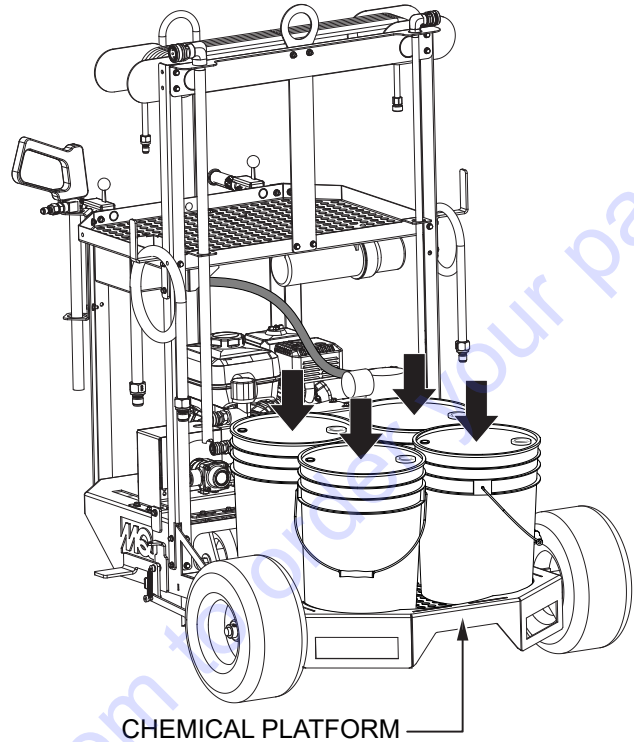
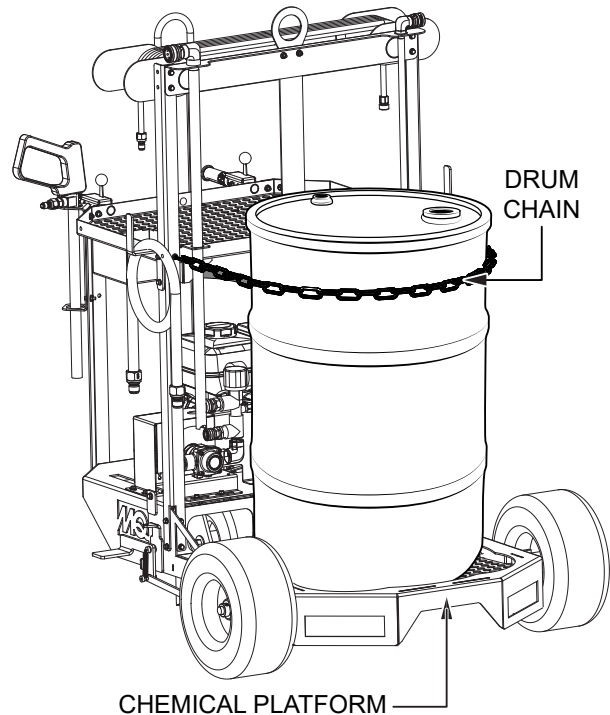

Figure 12. Loaded Chemical Platform (Buckets)
Figure 13. Loaded Chemical Platform (Drum)
2. Carefully load your liquid chemical supply onto the chemical platform. The platform will hold up to four 5-gallon (18.9-liter) buckets (Figure 12) or one 55-gallon (208-liter) drum (Figure 13).
3. If loading a 55-gallon drum, use a drum lifter or drum grabber forklift attachment to load the drum onto the platform. Secure the drum to the platform with the drum chain as shown in Figure 13.